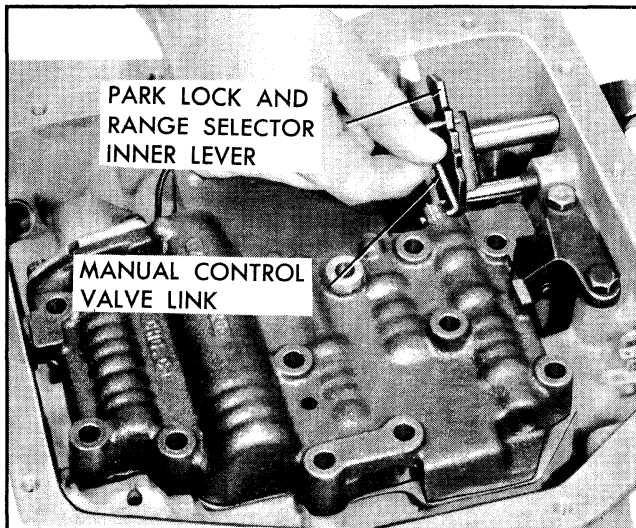

Fig. 7B-42 Disengaging Manual Control Valve Link
3. Disconnect solenoid connector from terminal (Fig. 7B-41).